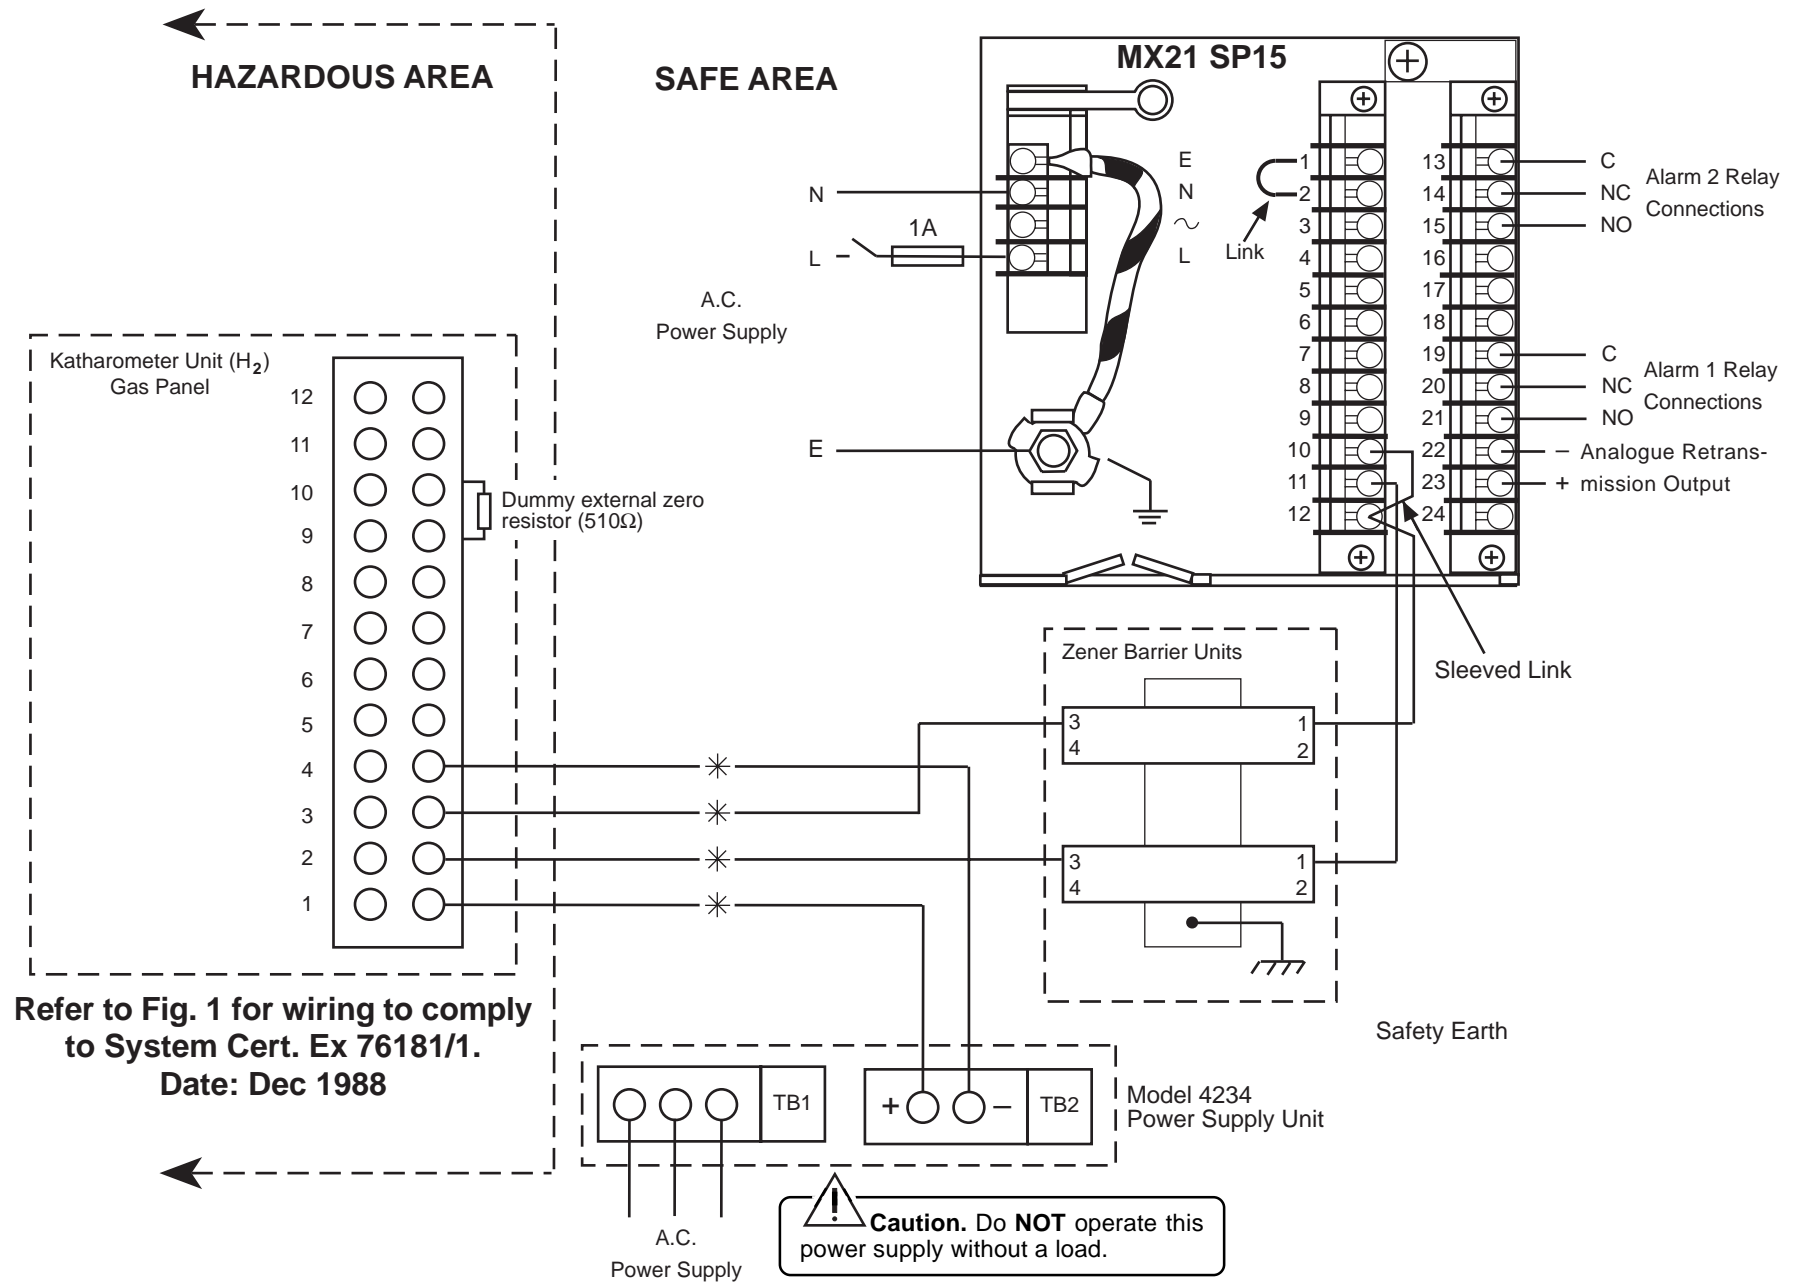

Fig. 5.2 Hydrogen Purity Gas Analyzer System – Interconnection Wiring Diagram
Fig. 5.2 shows the interconnecting wiring requirements which must be strictly observed. Details of cable requirements, which must be strictly adhered to, are also given in Section 5.2.1.
- b) Make the wiring connections in accordance with the information given in the wiring diagram Fig. 5.2 and Section 5.
All the electrical connections are made inside the katharometer unit on the analyzer panel as detailed in Fig. 5.2.
- b) Make the electrical connections in accordance with the information given in wiring diagram Fig. 5.2 and Section 5.2.1.
- Make electrical connections in accordance with the information given in the wiring diagram Fig. 5.2 and Section 5.2.1.
All cables from the Katharometer into the **hazardous** area must have an inductance/resistance ratio not exceeding $18\mu\text{H}/\Omega$, (for Group IIC gases). There is a further requirement that the maximum loop resistance of this interconnecting cable is limited to 2Ω . This may place a limitation on the length of the total cable run. These wires are indicated with a * in Fig. 5.2.